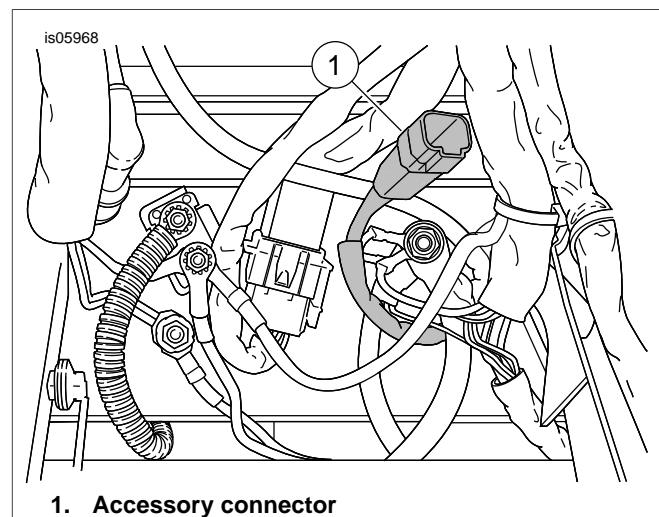

Figure 4. Accessory Connector Location (Under Seat)
1. See Figure 4. Remove rubber plug from accessory connector (1) located under seat. Plug the seat electrical connector into the accessory connector. The connectors should lock together with an audible click.